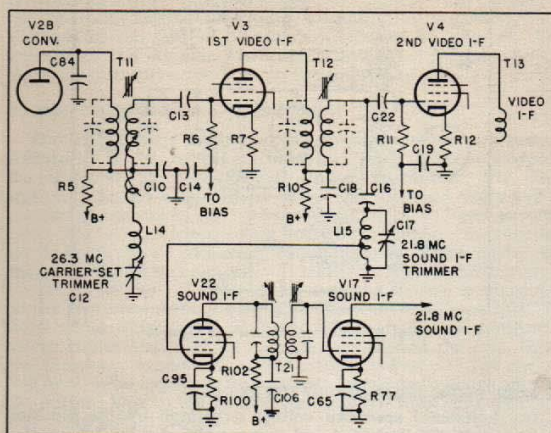

Fig. 3. Video and Audio I-F Amplifier
2. VIDEO AND AUDIO I-F AMPLIFIERS (SEE FIGURE 3).